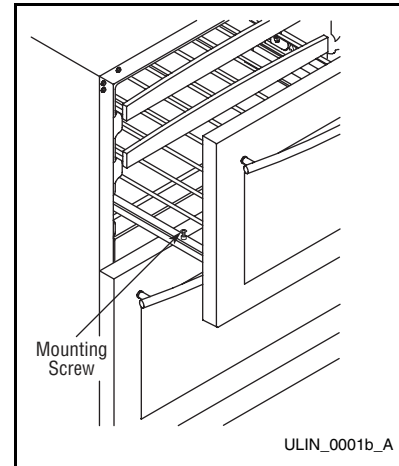

Figure 16
3. Remove the mounting screws. See **Figure 16**.